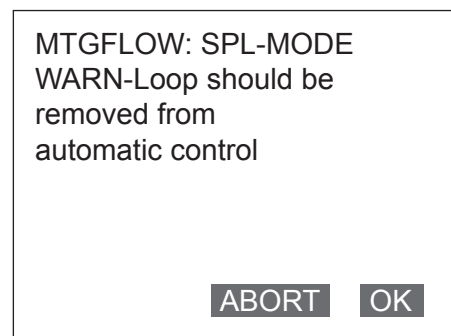

Fig. 7-58.
4. Fig. 7-58. will then appear. Set the connected calibrator value to 0.0 m/s and then press F4 (OK).